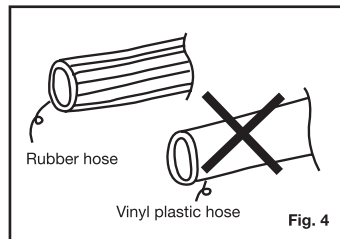

Fig. 4
- Use only a rubber hose to connect to gas cylinders. Do not use a vinyl plastic hose, as this can be dangerous. (Fig. 4)